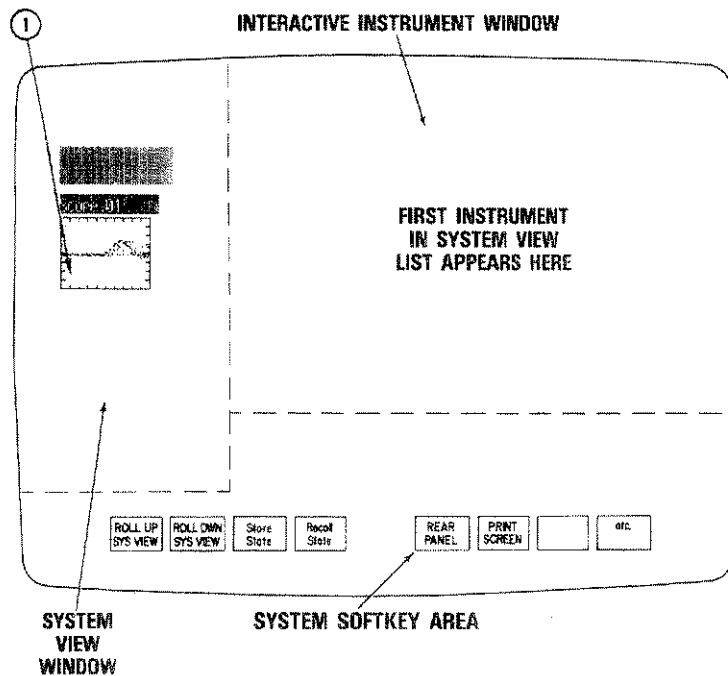

Figure 2-1. Selecting the Instrument
Step 1 - If the Oscilloscope is not already in the Interactive Instrument Window, point to and select SCOPE.01 from the labels listed in the System View Window (see Figure 2-1). If you have many instruments in your system, you may have to use the **ROLL UP SYS VIEW** and **ROLL DOWN SYS VIEW** softkeys to view a desired instrument. When you select an instrument from the window, the active indicator on the front of the instrument will light.